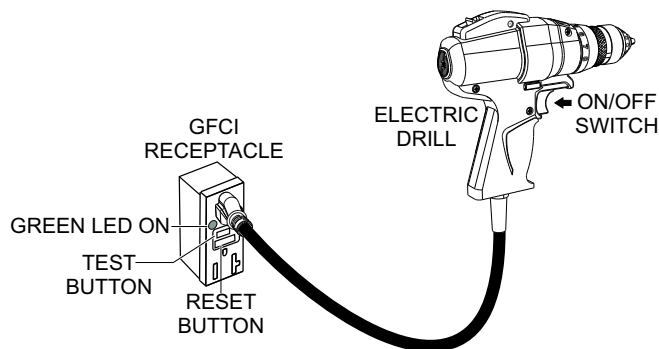

Figure 73. GFCI Receptacle Test
3. Verify green LED on the GFCI receptacle (Figure 73) is **ON**.